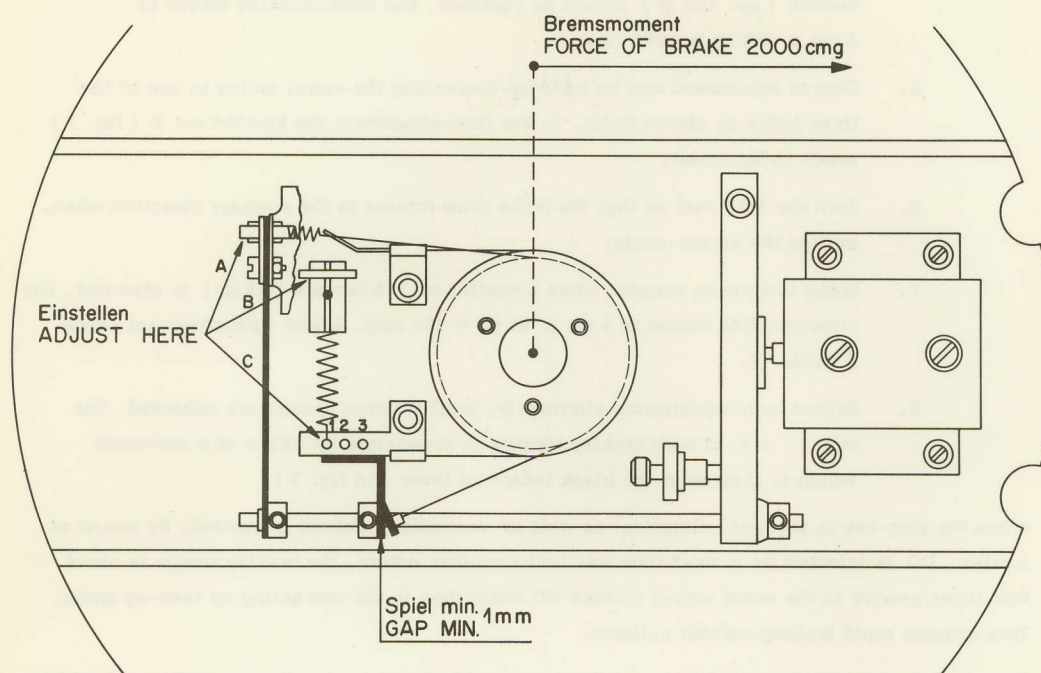

Fig. 7
1. Remove turntable and underlying dust cover. You will see now the brake facilities as shown in fig. 7.
5. Coarse adjustment can be made by connecting the spiral spring to one of the three holes as shown in fig. 7. For fine-adjustment the knurled nut B ( fig. 7 ) needs to be turned.
7. Brake tension is correct, when a reading of 1,5 ounces ( 45 gr ) is obtained. The corresponding torque is  $5 \text{ cm} \times 45 \text{ gr} = 225 \text{ cmg}$ . Adjust with alignment screw A in fig. 7.
8. Repeat both adjustments alternately, until optimum results are achieved. The ratio 1 : 8 of both braking torques is accessible by means of a servocord which is fastened at the black indicated lever ( in fig. 7 ).